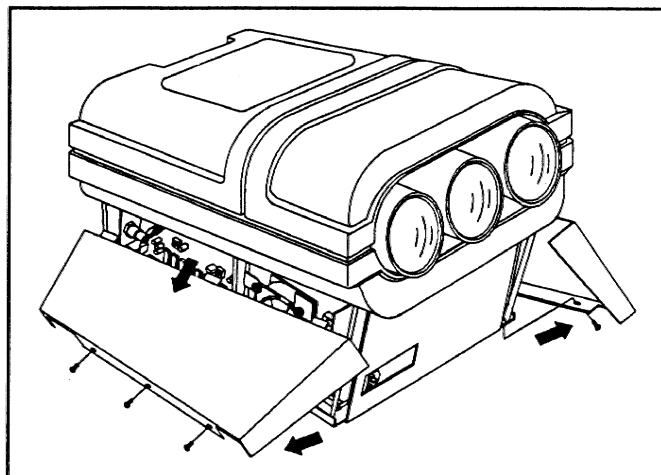

FIGURE 5-4. Side Panel Removal
- a) Remove the 3 hex head screws securing the side panel to the projector frame as shown in Figure 5-4.